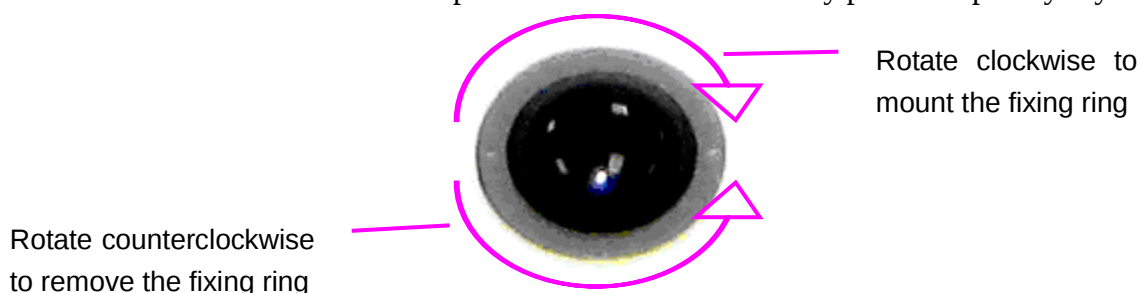

Figure 11-2 Assembling and Disassembling Trackball
2. Remove the trackball as shown in figure 11-2.